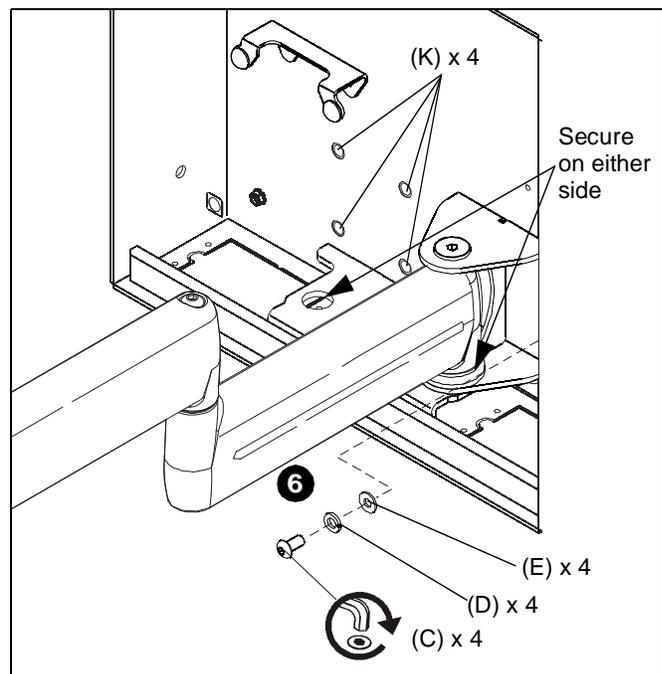

Figure 3
6. Secure swing arm to MAC501 using four button head cap screws (C), four lock washers (D) and four flat washers (E). (See Figure 3)
7. Cover remaining four openings in back of MAC501 with four screw covers (K). (See Figure 3)